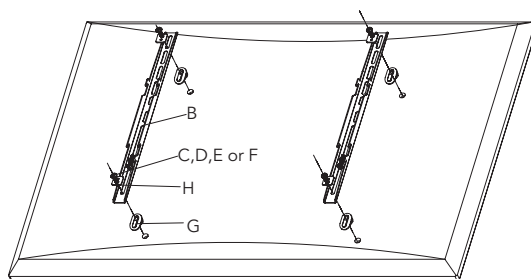

fig. 3
Before installation, the monitor brackets (B) must be vertically placed and the distance from the television to the bracket should be as short as possible. For a television that has the slot in the back, thread the screws (C, D, E or F) through the square pad (H), the monitor bracket (B) and spacers (G) into the television. Finally tighten the screws firmly with a Philips screwdriver (as shown in fig. 3).